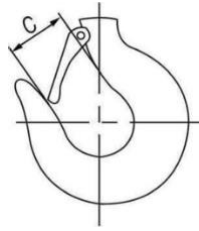

Figure 3 Hook Dimensions
- Inspect the hook to ensure that no abnormal wear exists on the sling section and the hook is not bent to open excessively. Fig. 3 shows standard dimensions of the mouth opening.